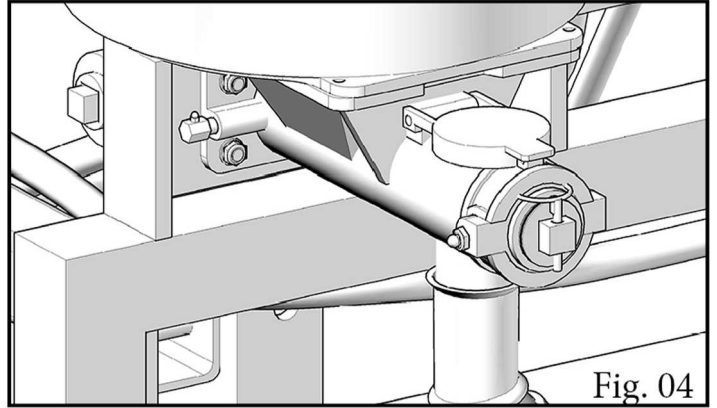

Fig. 04
- \* Keep the tables (box) of fertilizer Figure 04 always greased.;